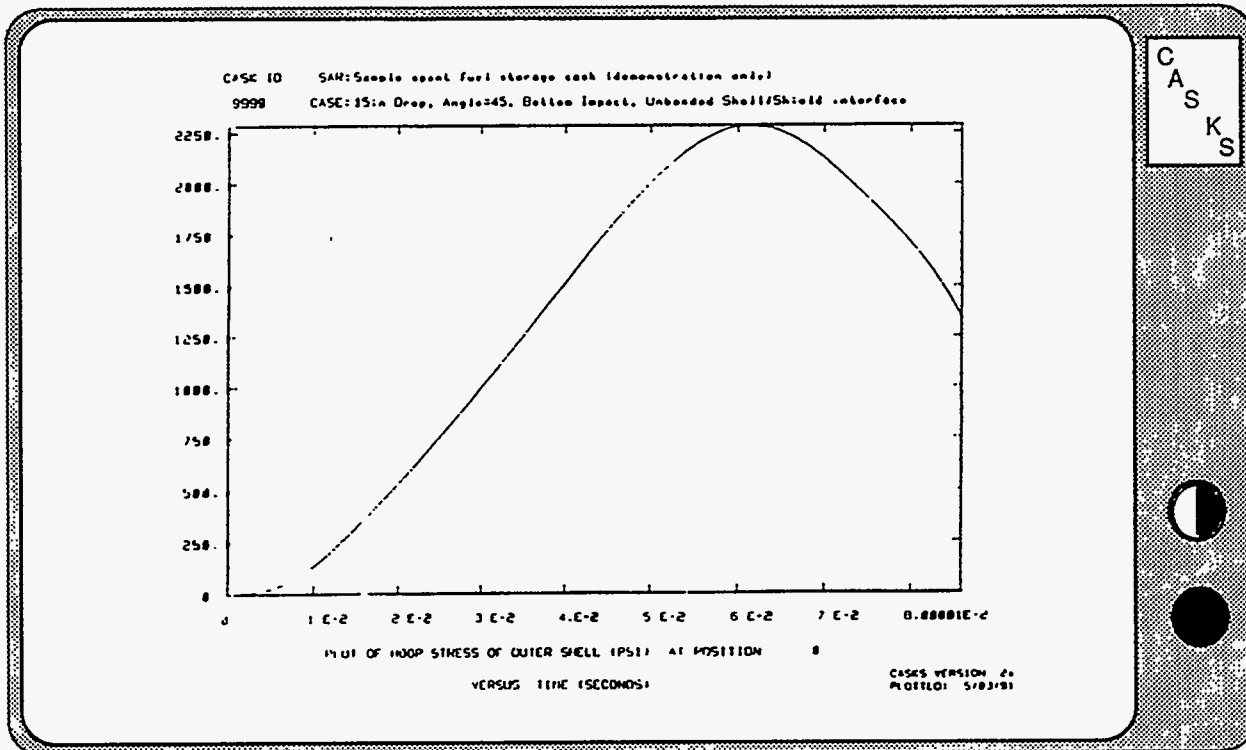

Figure 5-7. Hoop Stress Time History Plot
- ALT-F2** to plot Hoop Stress in the Outer Shell (unbonded only) (Figure 5-7)